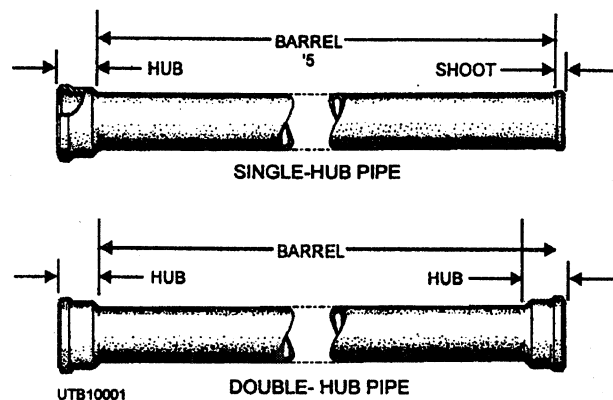

Figure 3-2.—Single-hub and double-hub cast-iron soil pipe.
The cast-iron soil pipe used in plumbing installations comes in 5-foot and 10-foot lengths. Sizes of cast-iron soil pipe are 2, 3, 4, 6, 8, 10, 12, and 15 inches nominal inside diameter. It is available as single hub or double hub in design, as shown in figure 3-2. Note that single-hub pipe has a hub at one end and a spigot at the other. The double-hub pipe has a hub at both ends. Hubs, or bells, of cast-iron soil pipe are enlarged sleeve-like fittings. They are cast as a part of the pipe and are used to make a water- and pressure-tight joint with oakum and lead. Cast-iron soil pipe is generally available in two weights: standard or service (SV) and extra heavy (XH). The extra heavy pipe is used where superior strength is required, for example, under roadways, where the pipe may vibrate or settle slightly, and tall stacks. Standard or service weight pipe is adequate for most Navy base construction.